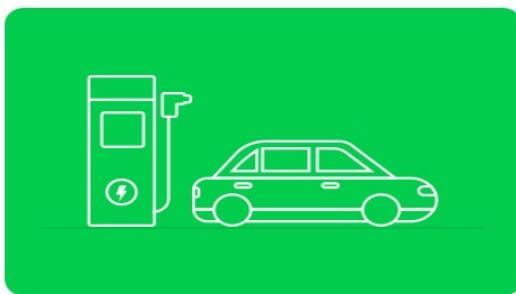
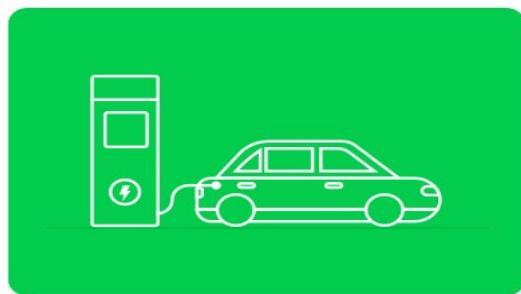

Figure 39. The state of not inserting the gun
Figure 40. The state of not inserting the gun
6.3.1 Take out the plug gun, insert the charging gun into the charging port of the vehicle, and the screen icon changes at this time (as shown in Figure 39 and Figure 40)